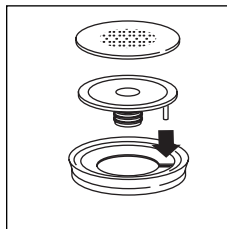

fig. 30
- Replace the filter and gasket on the plastic disk as shown in fig. 30. Make sure to insert the pin on the plastic disk into the hole in the gasket indicated by the arrow in fig. 30.